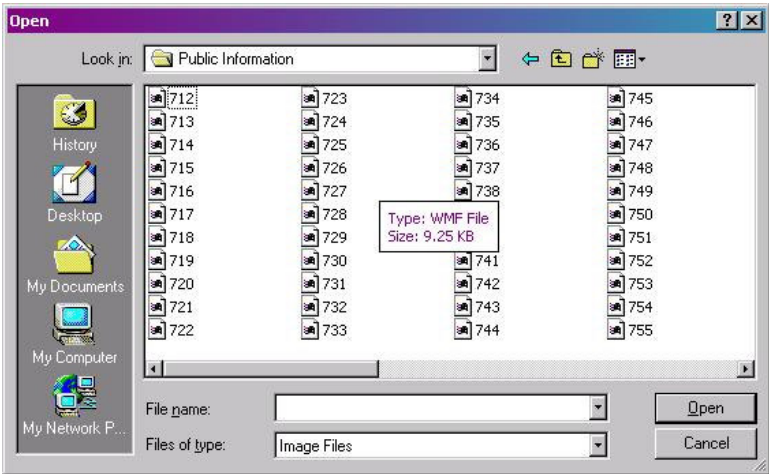

Figure 3.6.1.11: ClipArt
5. Select the clip art that you wish to add to the label (see Figure 3.6.1.13).